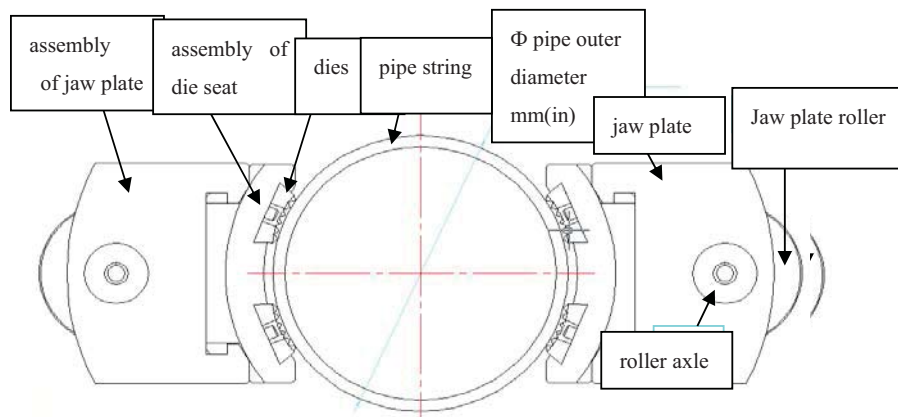

Fig.12 Assembly schematic diagram
5.1.1 **The assembly of jaw plate, die seat and die.** (see fig 12) .